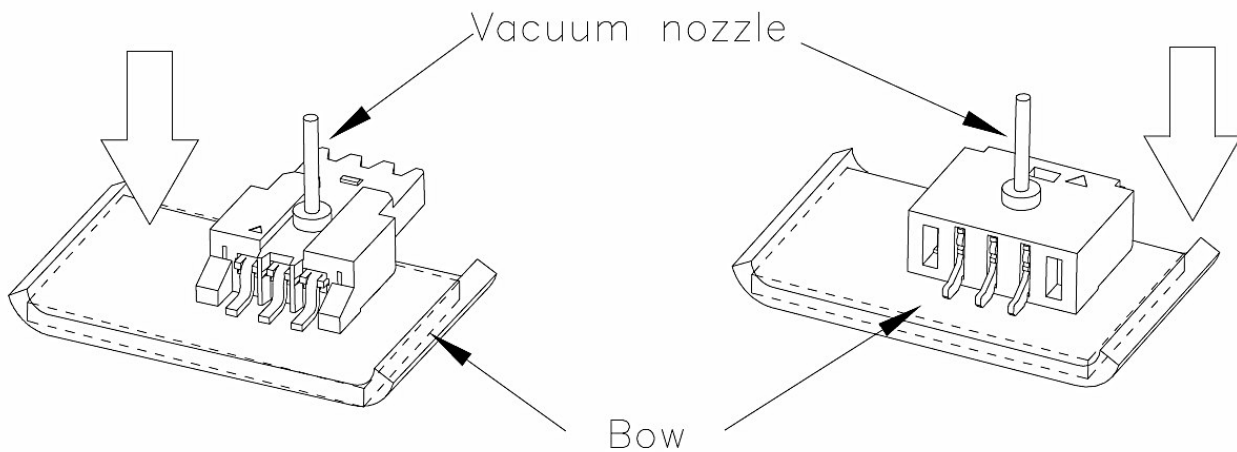

Fig. 2-5
- Please beware that the bottom dead center of vacuum nozzle and nozzle pressure when mounting. If nozzle position is too low or too much nozzle pressure is added, too much stress is added to product and that might cause soldering failure by transformation of tail part, nail part and thin part or bow of P.C.B. ( fig. 2-5)